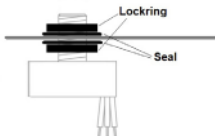

Fig. 1
- Using the seals and lockrings supplied, place the sensor into the hole and fasten securely against the enclosure wall. The inner locking may be omitted and the outer lockring tightened against the body of the sensor, but both seals should be used (see Fig. 1)